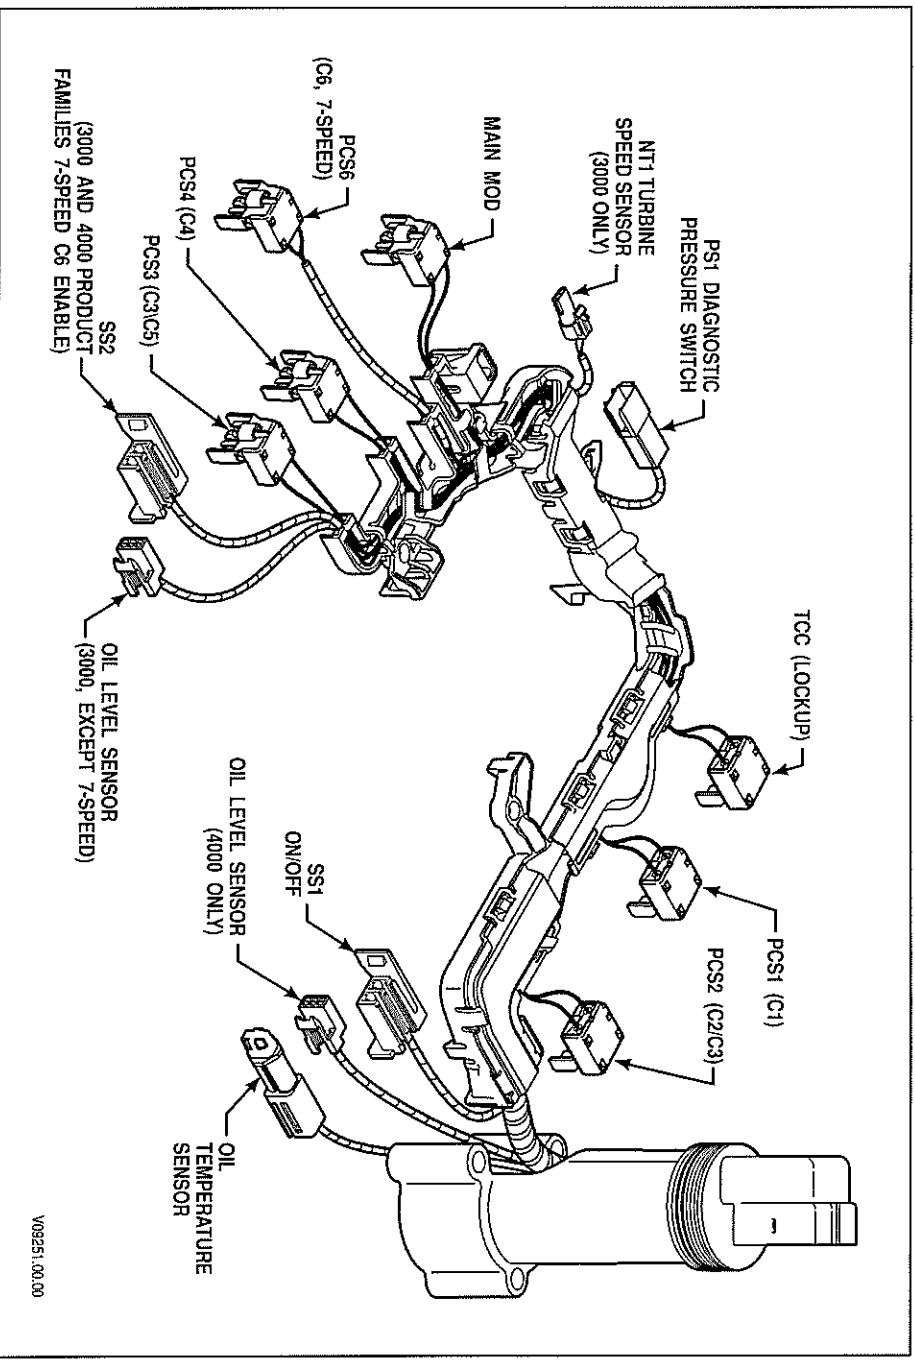

Figure 1-10. Allison 4th Generation Internal Wiring Harness
B. Internal Wiring Harness (Figure 1-10)